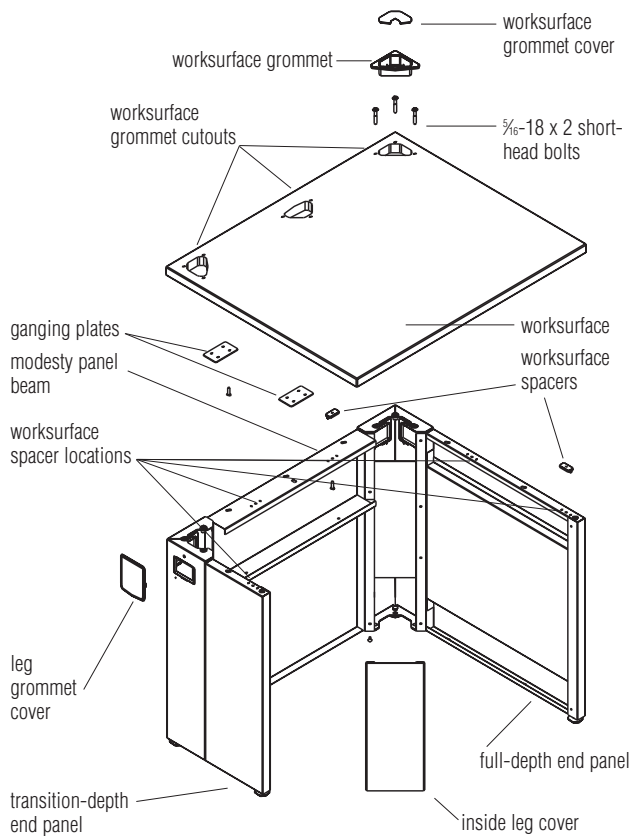

Figure 2
5. Carefully set assembly onto glides. Attach inside leg covers by aligning keyholes in leg cover with screw heads and firmly pressing down to secure (Figure 2).
6. Locate worksurface spacer locations on end panels and modesty panel beam and snap worksurface spacers into place from topside. There are two worksurface spacer locations on each full-depth end panel, one on transition-depth end panels and two on each modesty panel beam. A worksurface spacer must be used in all available locations (Figure 2).
7. Place worksurface laminate side up on leg support assembly, aligning the 3/8" diameter holes near the grommet cutout locations with the threaded inserts in the leg supports. Insert six 5/16-18 x 2 short-head bolts into the threaded inserts finger tight, but do not tighten until all the bolts are in place. Once all six bolts are in place, tighten until worksurface laminate begins to deform slightly from bolt head (Figure 2).
8. Align worksurface spacer holes with pre-drilled holes on underside of worksurface. Secure with #14 x 3/8 screws at each location (Figure 2).